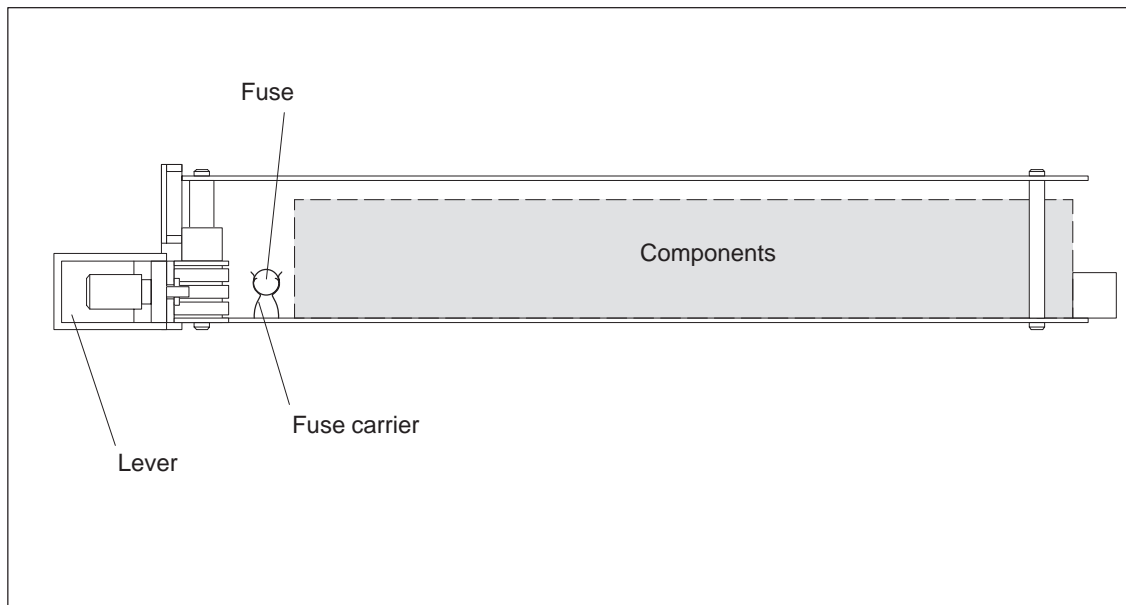

Figure 3-5 Power Supply Unit, View from Below
2. The fuse is accessible from below. It is located on the power supply unit PCB near the lever (see Figure 3-5).